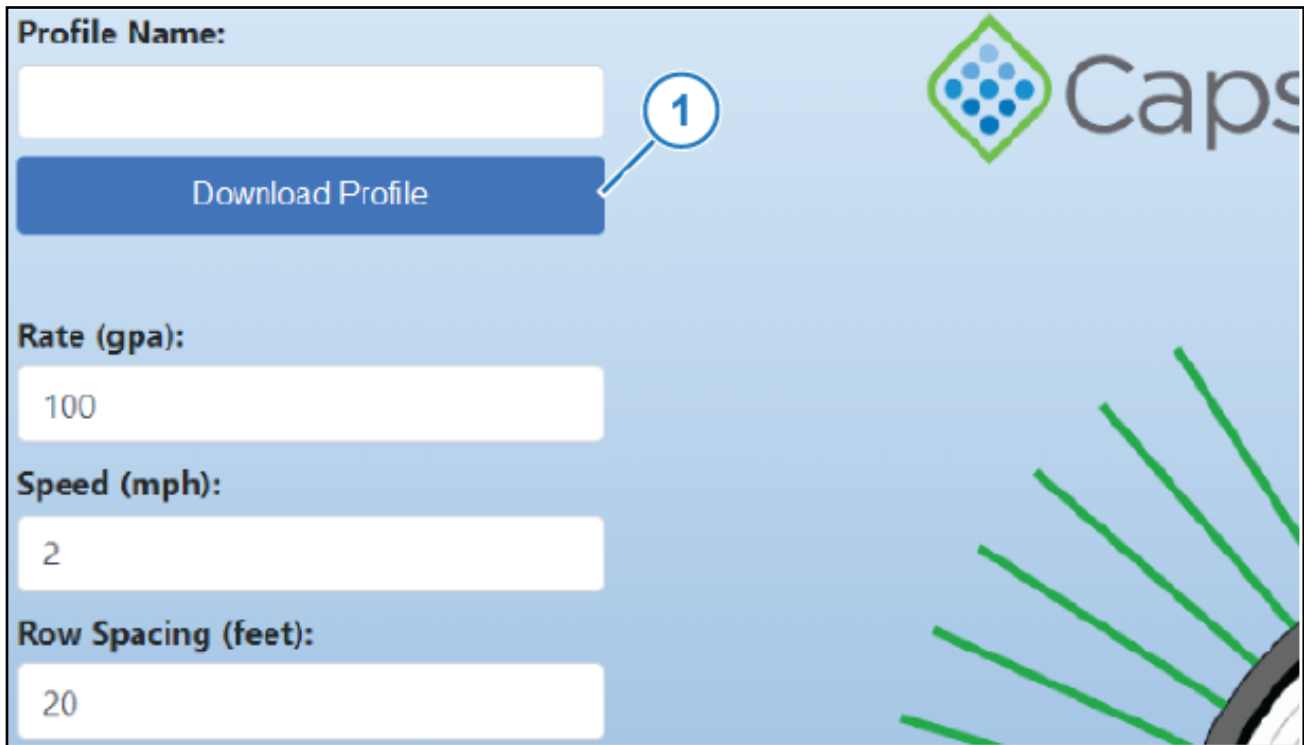

Figure 16: Online Profile Builder
3. Click on **Download Profile** (Figure 16, Item 1).